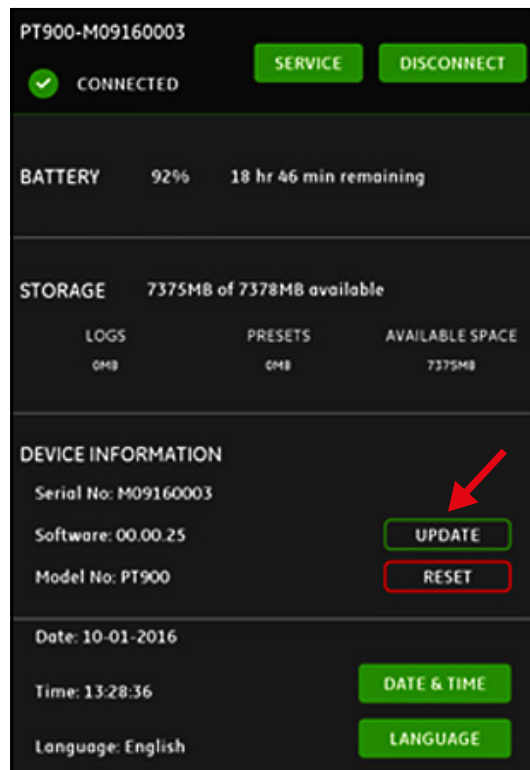

Figure 121: UPDATE Button in TRANSMITTER Menu
4. In the APP TRANSMITTER menu, click the UPDATE button (see *Figure 121* below) to start the update.